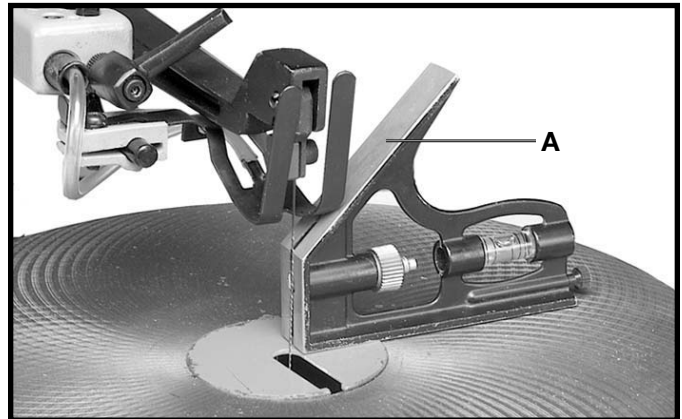

Fig. 22
2. Place one end of a square (A) Fig. 22, on the table and the other end against the blade, as shown. Check to see if the table is 90 degrees to the blade.